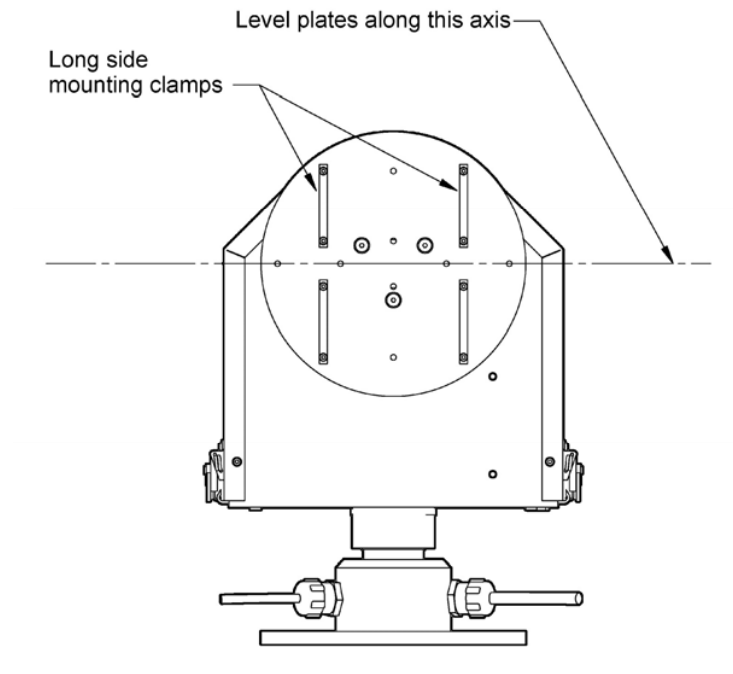
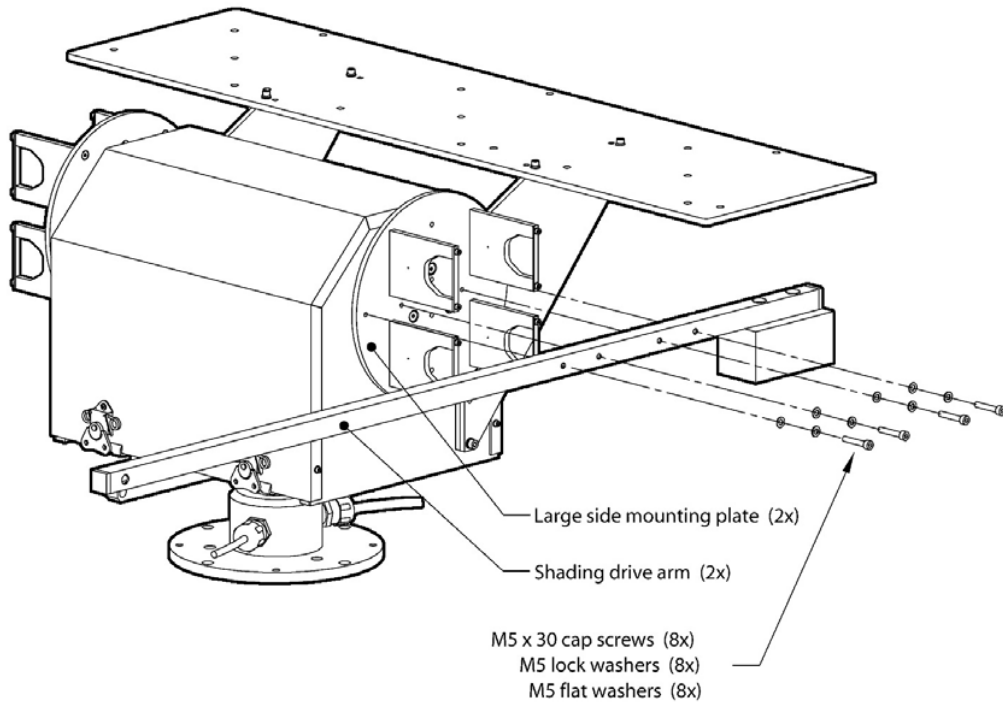

Figure 4.19: Large Side Mounting Plates Levelling.
Figure 4.22: Attaching Side Drive Arms
- As shown in figure 4.19, use a tubular type bubble (spirit) level to level the mounting clamps. Place the bubble level on the top side clamps. It may be helpful to install one of the Shading Drive Arms (figure 4.22) to complete this task.
- Attach both the Shading Drive Arms with the designated screws. Ensure the counter weights are facing down. Do not completely tighten the screws yet, some room for installing the T-bar is required, see figure 4.22.